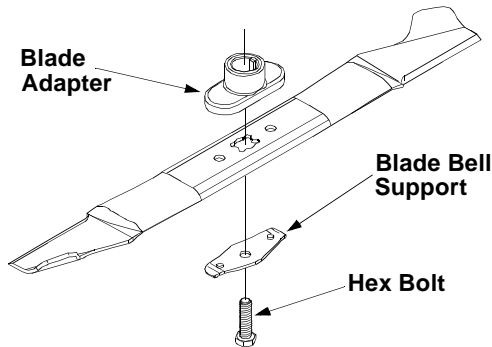

Figure 13
- Remove the bolt and the blade bell support which hold the blade and the blade adapter to the engine crankshaft. See Figure 13.